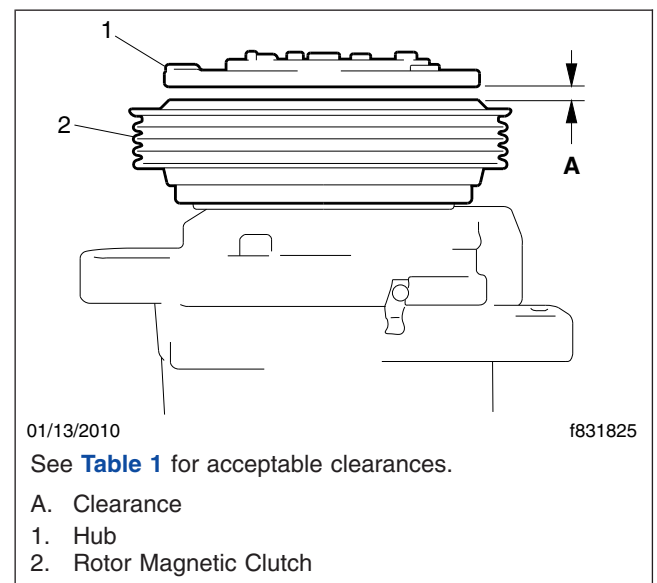

Fig. 1, Hub/Rotor Clearance
3. With the belt removed, check to make sure that the rotor (pulley) spins freely. It should not wobble or contact the hub when it is spinning. Using a feeler gauge, check the clearance between the rotor and hub at several locations, and average the results. See Fig. 1. See Table 1 for acceptable clearances.